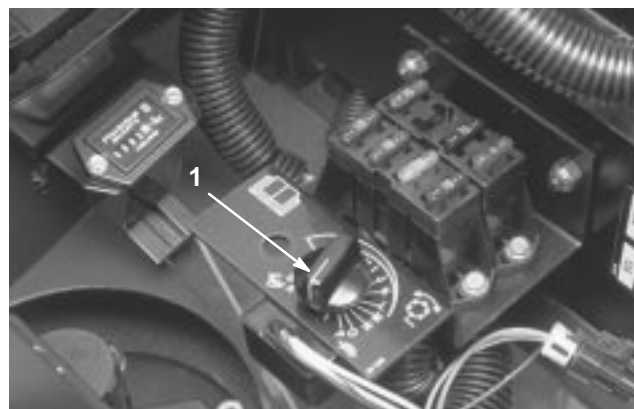

Figure 17
3. Open control cover and turn the H.O.C. selection knob to position “P” (Fig. 17).